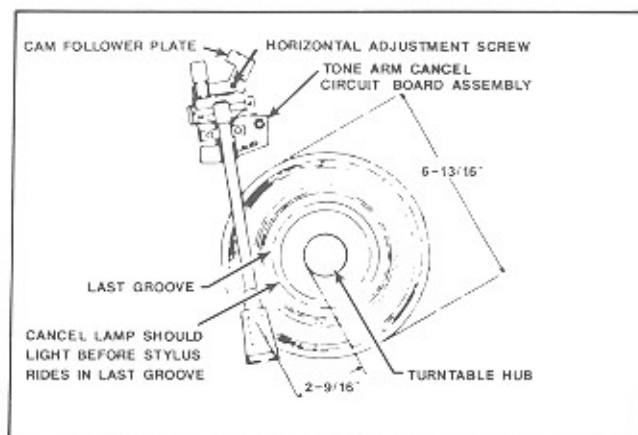

Figure 3-21. Stylus and Tone Arm
1. Place an undersize (6 and 25/32 inch diameter) record on turntable (see figure 3-21).